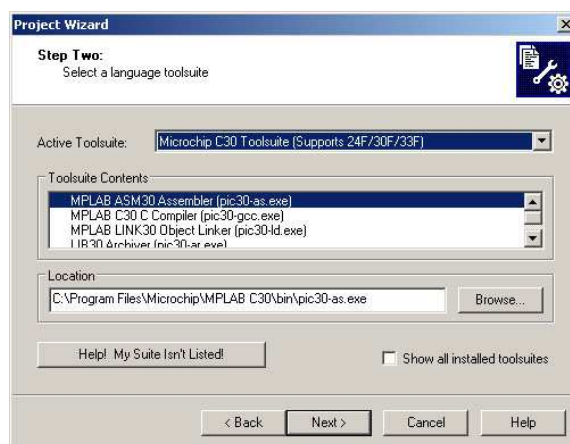

Figure 2: Project wizard, step 2, select language toolsuite.
5. From the Device: pull-down list, select dsPIC30F6014A and click Next>. The Project Wizard Step Two dialog displays (see Figure 2).